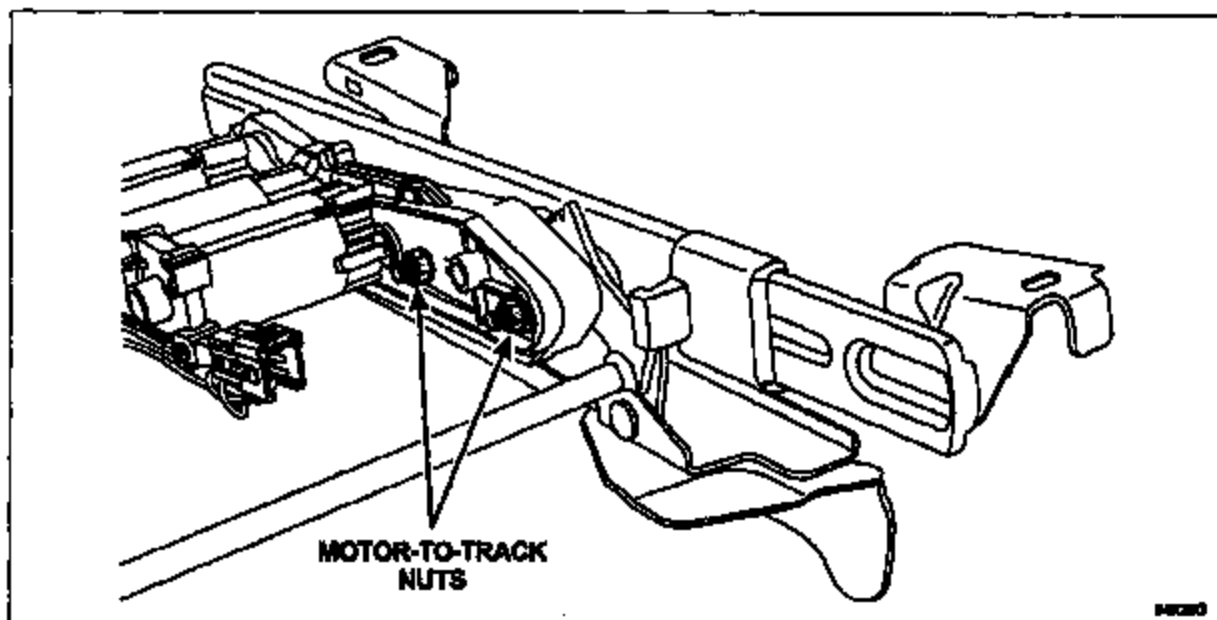

FIGURE 7
8. Remove the two (2) motor-to-track nuts (on Thunderbird, one nut was previously removed with the connector bracket). See Figure 7.
8. Position the connector bracket (Thunderbird only) and install the two (2) nuts. Tighten to 14 Nm (10 lb-ft). See Figure 7.